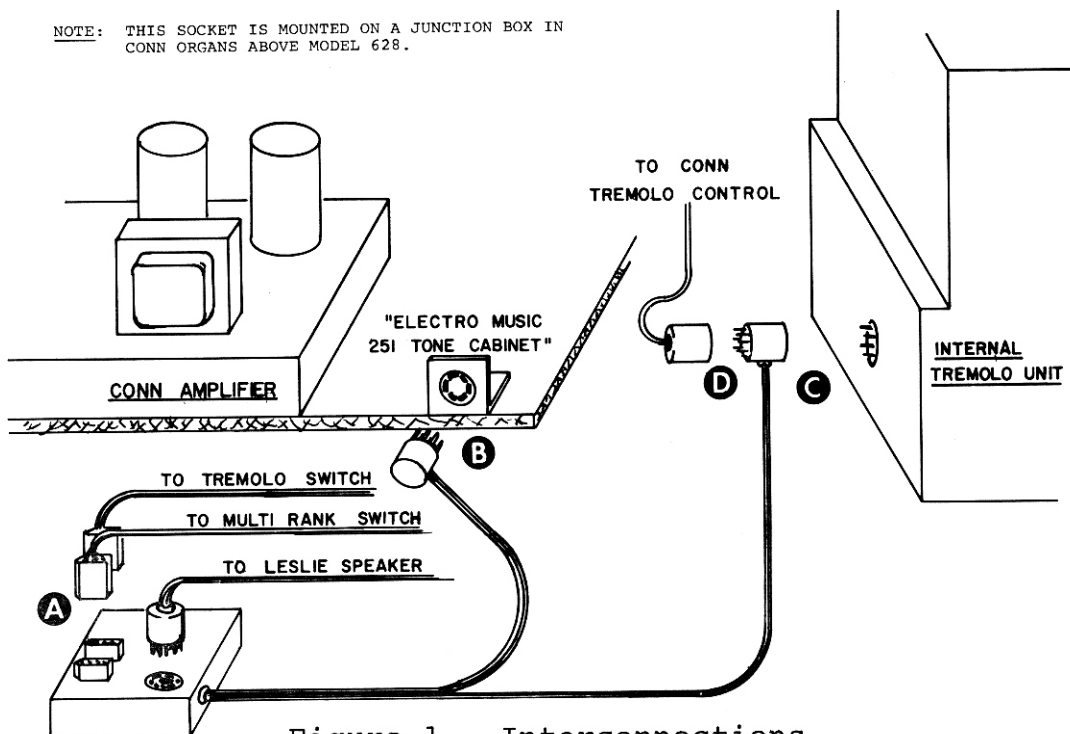

Figure 1. Interconnections
5. Connect the tremolo and multi-rank control plugs to the labeled sockets on the console connector chassis. (See A on figure 1.)
6. Attach the six-pin console connector plug to the ELECTRO MUSIC 251 TONE CABINET socket beside the Conn amplifier. Do not plug it into the ELECTRO MUSIC 251 TONE CABINET socket on the Conn amplifier itself. (B)
7. Detach the socket from the Conn internal tremolo unit. (C) Replace it with the socket end of the five-circuit console connector interceptor.
8. Insert Conn tremolo unit socket into plug end of the five-circuit console connector interceptor. (D)